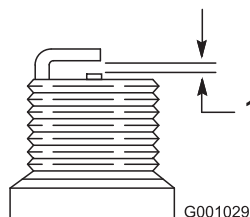

**Figure 20**
1. Remove the boot (Figure 20).